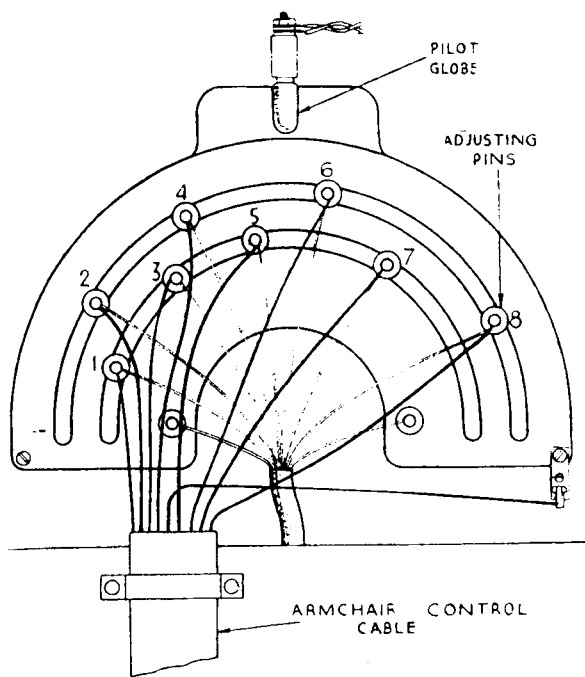

Fig. 2.—Automatic adjusting pins and Armchair Control connections.
Perform alignment in the proper order, starting with No. 1 and following all operations across, then No. 2, etc. Adjustment locations are shown in Figs. 2 and 5. "No Signal 550-750 K.C." means that the receiver should be tuned to a point between 550 and 750 Kc/s where no signal or interference is received from a station or local (heterodyne) oscillator. The term "Dummy Aerial" should be disregarded, if a Type 2R3911 Signal Generator is employed, as a suitable dummy aerial is included in the output cable of the instrument. If a Type C1070 Modulated oscillator is used, a dummy aerial should be used for short wave alignment. It is simply a 400 ohms non-inductive resistor, connected between the output cable of the test oscillator.
(3) Look in the back of the receiver and two semi-circular slots in which are eight adjusting pins, as shown, numbered 1 to 8 in Fig. 2, will be seen. These correspond to the keys on the keyboard, numbered 1 to 8, from left to right.
(4) Hold the "Manual" key down and press key No. 1 on the keyboard. Both keys will stay down. Then move adjusting pin No. 1 along the semi-circular slot, either clockwise or anti-clockwise, until the pilot globe situated above the adjusting pin goes out. It will be noticed that when the adjusting pin is moved to the right past this position the globe will light brightly and to the left dimly.
When an Armchair Control Unit is connected to the receiver, as shown in Fig. 2, it duplicates the action of the eight station selector keys on the receiver's keyboard. That is, after pressing the "Manual" key on the receiver, eight broadcast stations may be tuned automatically at any distance up to the length of the connecting cable from the instrument (25 feet).